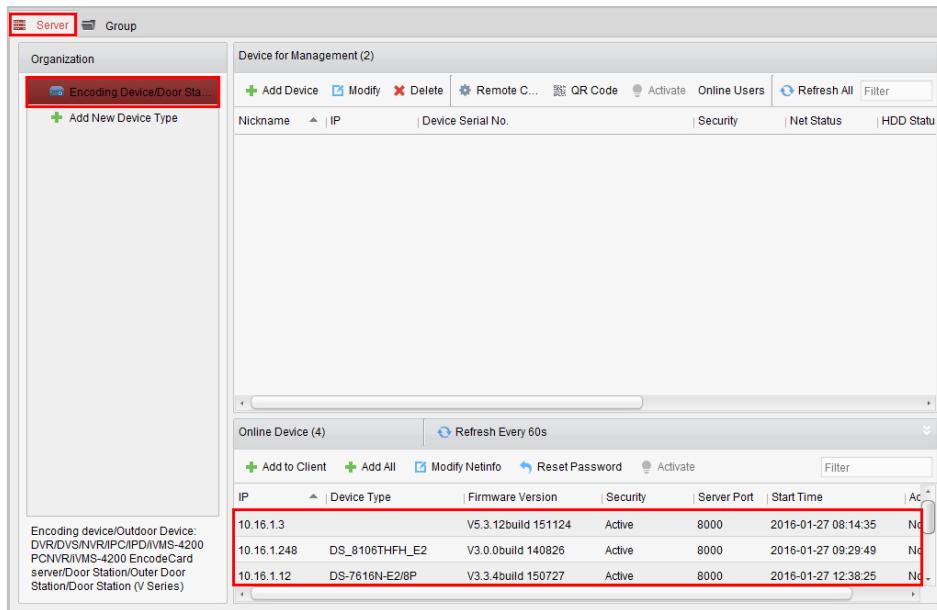

Figure 4-3 Device List
4. Click Server tab to enter the server management interface. The online devices list is shown in Figure 4-3.